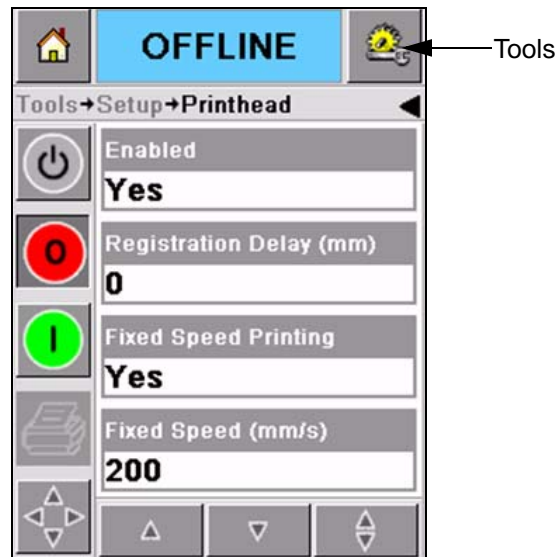

Figure 5-14: Printhead Setup Screen
- 1 Navigate to *Tools > Setup > Printhead* in the *Home Page*. The *Printhead* setup page appears (Figure 5-14).